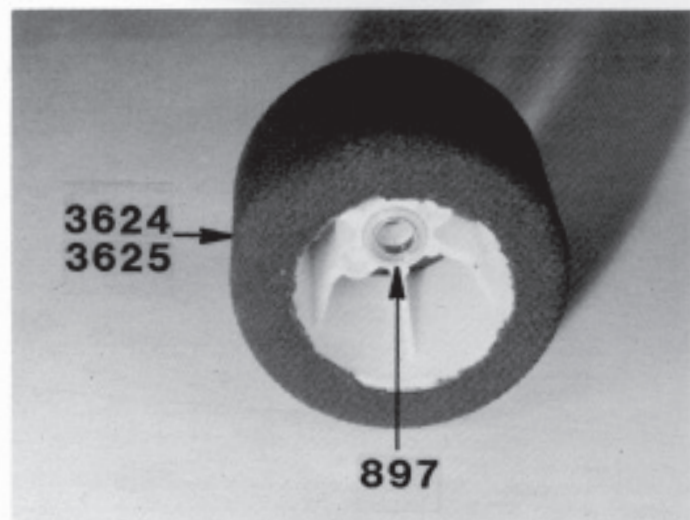

Fig. 65
□ **Fig. 65** Take one of the #3625 rear wheels with tires and push the last #897 1/4" x 3/8" flanged bearing (from Fig. 62) into the outside of the wheel center as shown. This wheel will become our right hand diff wheel.